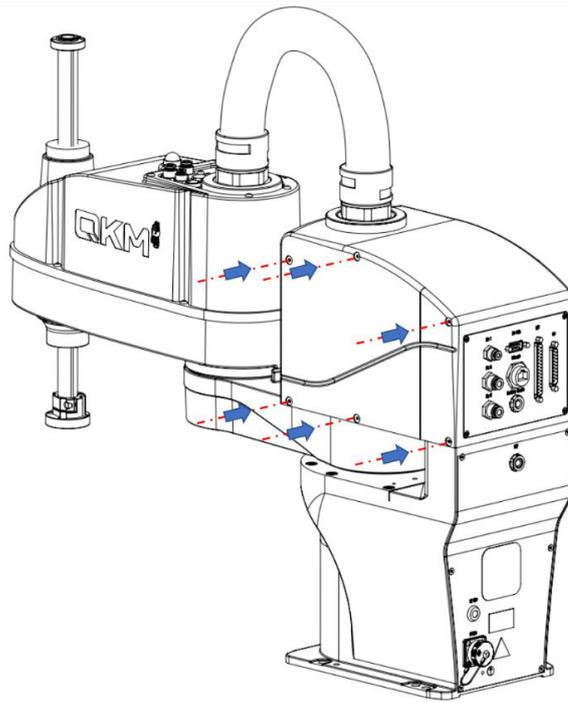

Figure 4-7 Installation of side door panel
Step 2 Install the side door panel by tightening the screws (with a tightening torque of 1.5 N·m), as shown in Figure 4-7.